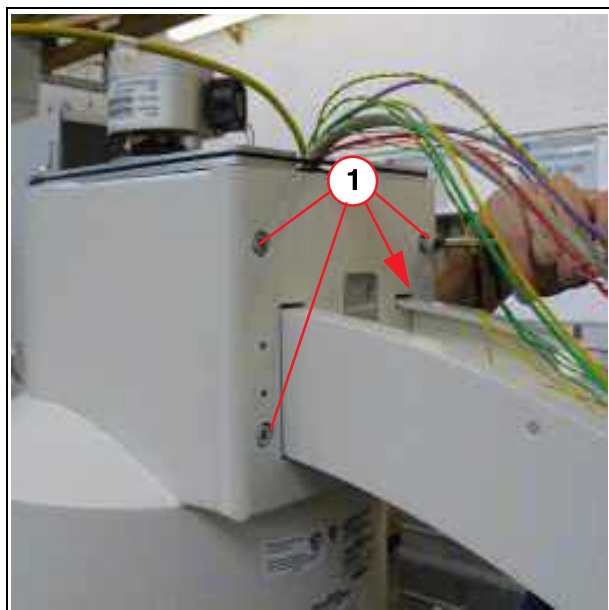

Fig. 21: I. I. cable
2. Take the new I. I. to the C-arm holding device and screw in the 4 ISK screws (1/Fig. 21 / p. 42) to reattach the I. I. (use Loctite 221).